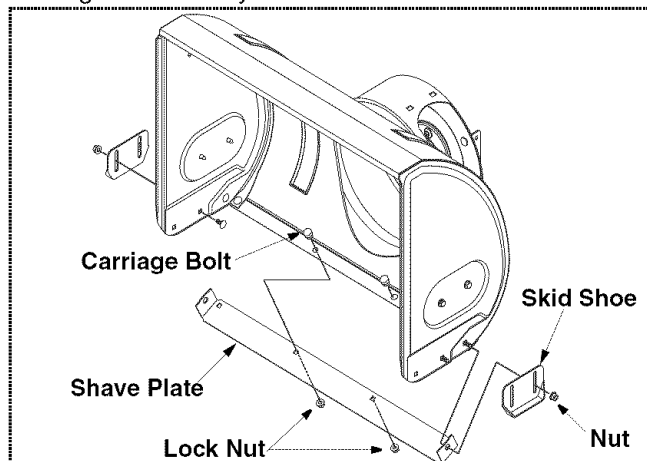

Figure 19
1. After removing both skid shoes, remove four carriage bolts and lock nuts which attach shave plate to the snow thrower housing. See Figure 19 .